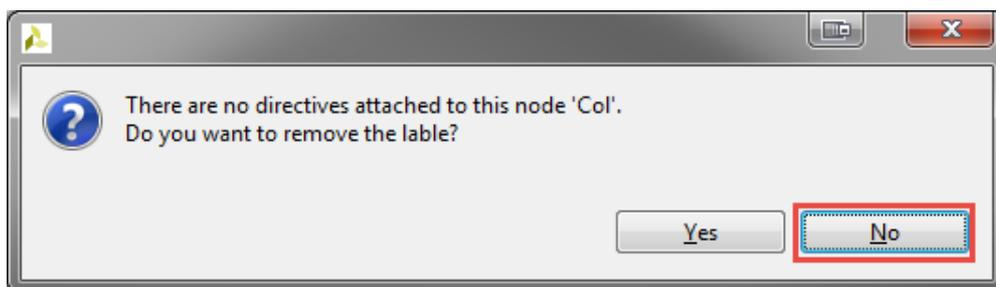

Figure 3.19: Node re-labelling dialogue window
- (u) Ensure the source code `matrix_mult.cpp` is visible in the editor, and open the **Directives** tab. First, remove the previously inserted pipeline directive on loop `Col`. Right-click on the directive and select **Remove Directive**. If a dialogue window similar to that in Figure 3.19 appears, click **No**.